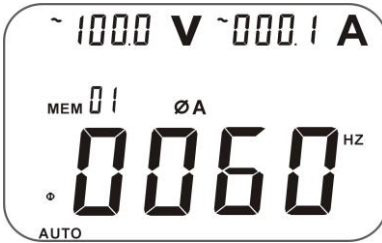

figure 27
(4) Press SELECT to choose the first phase ϕA . See figure 27.